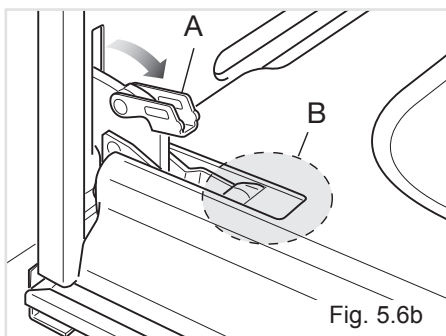
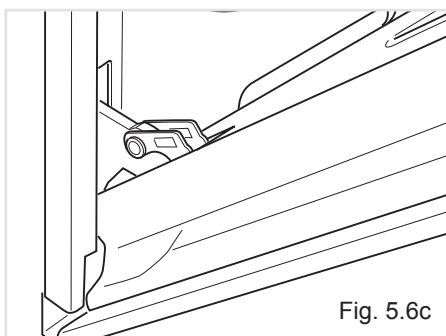

Fig. 5.6b
Fig. 5.6c
- Open the lever "A" completely on the left and right hinges (fig. 5.6b).
- Gently close the door (fig. 5.6c) until left and right hinge levers "A" are hooked to part "B" of the door (fig. 5.6b)